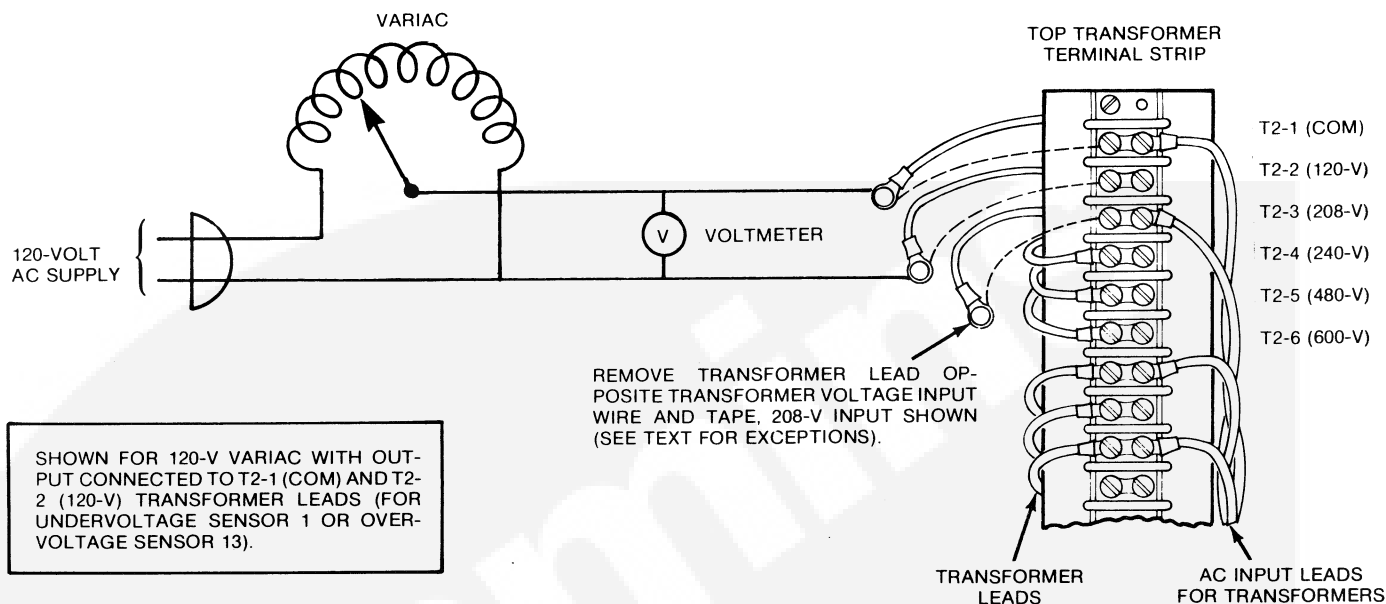

FIGURE 15. CONNECTION OF VARIAC TO TRANSFORMER
11. Remove the transformer leads from T2-1 (COM) and T2-2 (120-V) from left side of the terminal strip and connect them to the output leads of a 120-volt variac (240-volt variac would require removal of transformer leads from T2-1 and T2-4 and connecting variac to these leads, etc.). See Figure 15. (Use instructions with Onan Multi-Tester if used.)
12. Note right side of terminal strip to see which terminal of T2-2 through T2-6 has an AC input lead. For example, a wire connected to T2-3 indicates 208 volts AC input. On the left side of the terminal strip, remove the corresponding transformer lead and tape it. Figure 15 shows an example of this.
and connecting variac to these leads. etc.) See Figure 15. (Use instructions with Onan Multi-Tester if used.)
11. Note right side of terminal strip to see which terminal of T2-2 through T2-6 has an AC input lead. For example, a wire connected to T2-3 indicates 208 volts AC input. On the left side of the terminal strip, remove the corresponding transformer lead and tape it. Figure 15 shows an example of this.